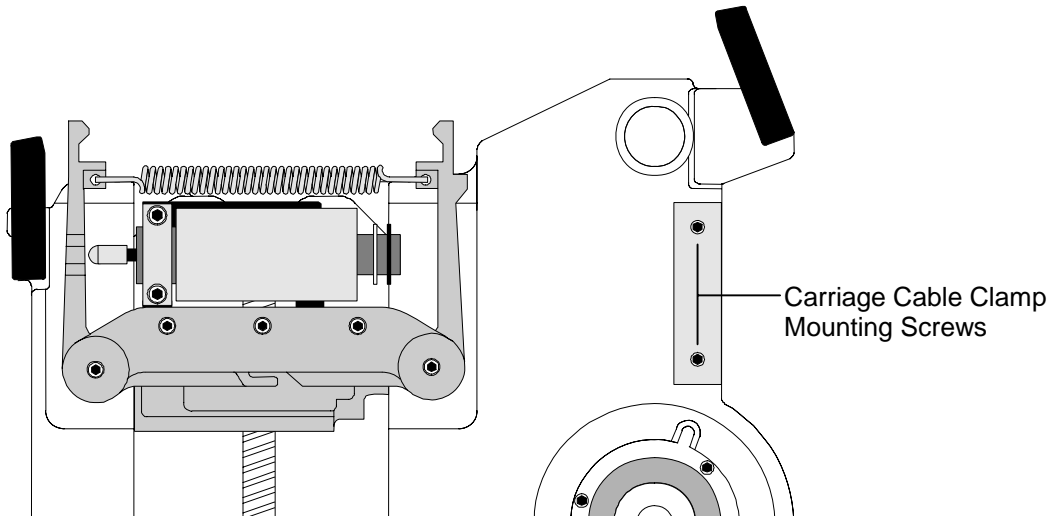

Figure 7-9 The Carriage Assembly – TLS-412180/360 Model Top View Shown
2. Use a 7/64-inch Allen wrench to remove both socket-head Carriage Cable Clamp mounting screws (Figure 7-9).
26. Insert the Carriage Cable Clamp into the mating recess on the upper surface of the Carriage casting (Figure 7-9).
27. Insert both Carriage Cable Clamp mounting screws (6-32 x 1/4-inch Socket Head Cap screws) into the mounting holes in the Carriage Cable Clamp (Figure 7-9), then firmly tighten the screws with a 7/64-inch Allen wrench.